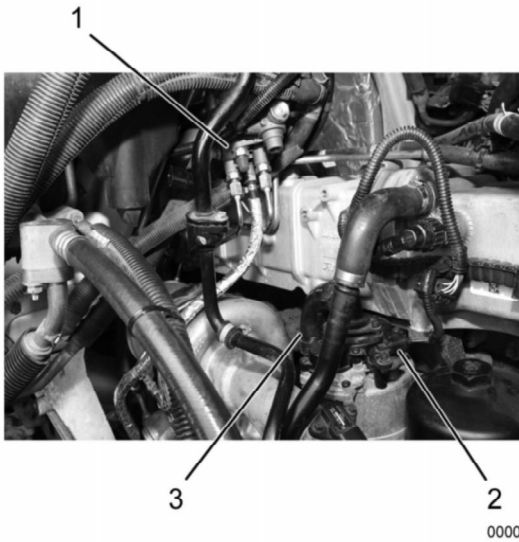

Figure 20: Air Control Valve
17. Remove three mounting bolts from ACV (**Figure 20**, Item 1) and position ACV aside.
18. Disconnect CCOS housing outlet hose (**Figure 20**, Item 3) from CCOS housing.
19. Disconnect CCOS housing sensor connector (**Figure 20**, Item 2).
22. While pulling out HP turbocharger inlet duct (**Figure 20**, Item 2) remove CCOS housing (**Figure 20**, Item 1) from oil jet plate.